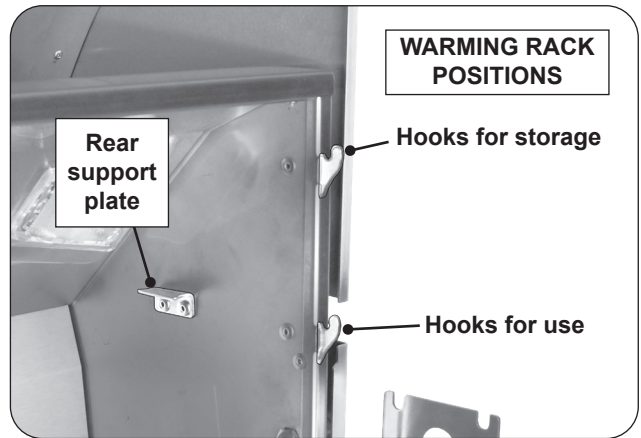
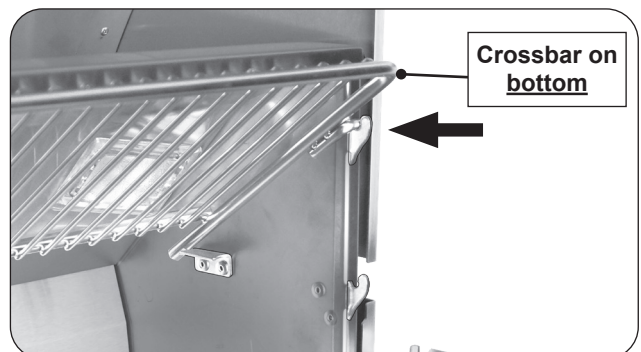

Fig. 23-1 Warming rack hooks
Fig. 23-3 Place warming rack in storage position
1. Locate the warming rack hooks and rear supports found on the upper portion of the grill oven (see Fig. 23-1).
Use the top hooks for storage (see Fig. 23-1 and Fig. 23-3).